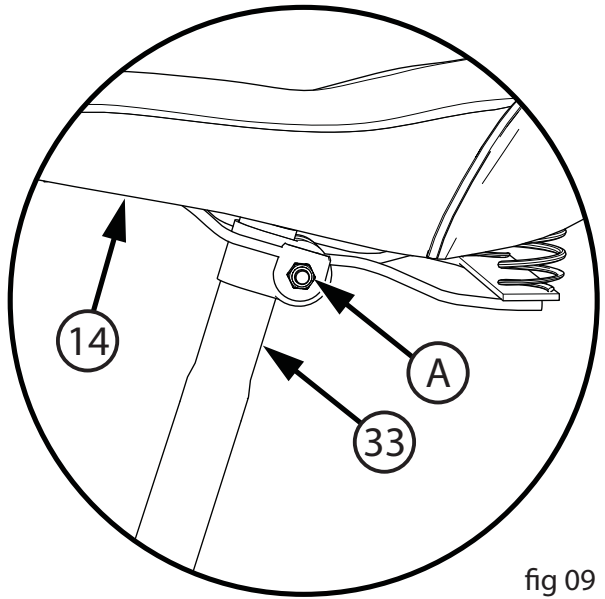

fig 09
### Attach Seat to Seat Post (fig 09):
- **If the seat moves in the Seat Clamp (A) (fig 09):**
- Loosen the Seat Clamp (A).
- Put the seat in the correct position and tighten the Seat Clamp (A) tighter than before.
- Do this test again, until the seat does not move in the Seat Clamp (A).
- **If the Seat Post (33) moves in the Seat Tube (B):**
- Move the Quick Release Lever (D) to the “open” position.
- Put the seat in the correct position and tighten the Quick Release Lever (D) tighter than before.
- If necessary, loosen Quick Release Lever (D), tighten Adjusting Nut (F) and re-tighten Quick Release Lever (D).